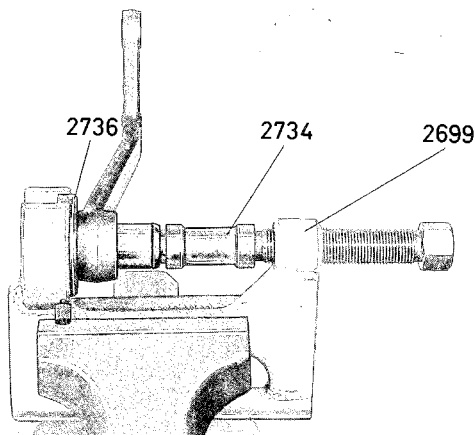

Fig. 6-56. Removing rubber bushing, relay arm
4. Secure press tool 2699 in a vise and press the bushing out with counterhold 2736 and drift 2734 (see Fig. 6-56).